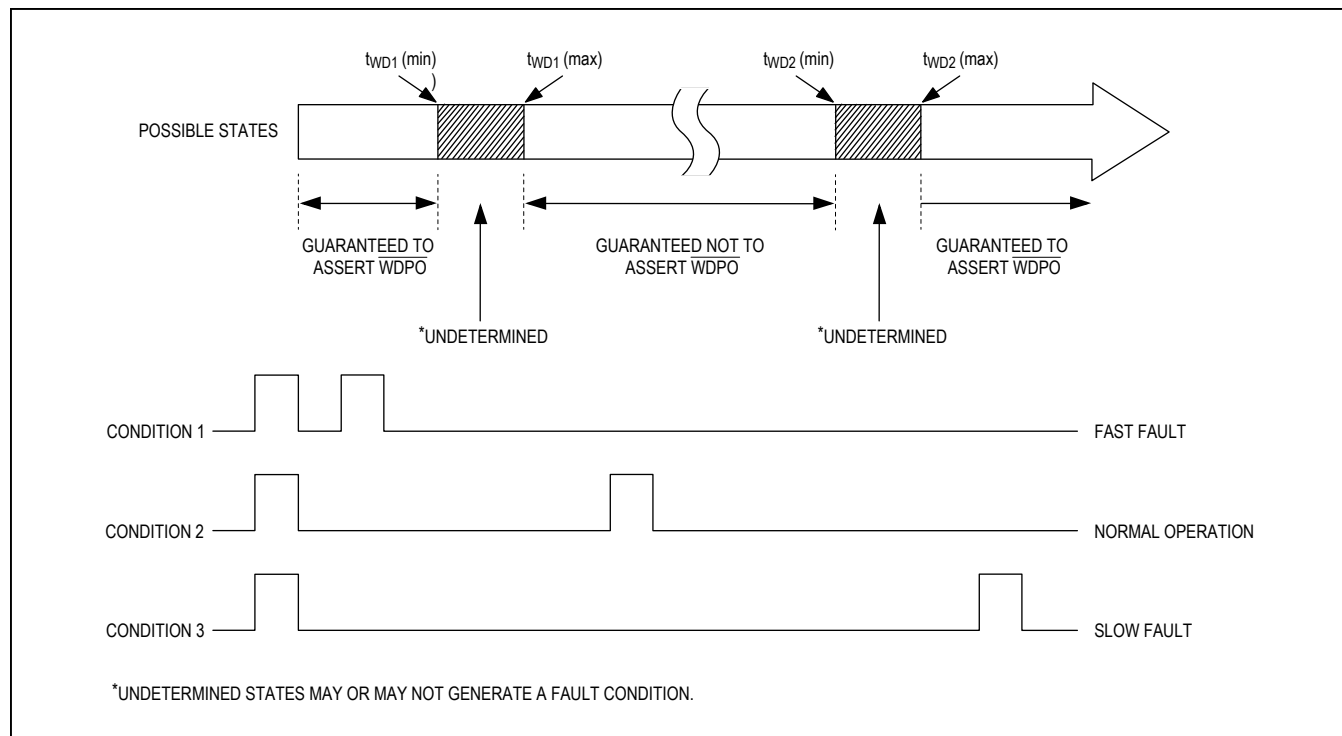
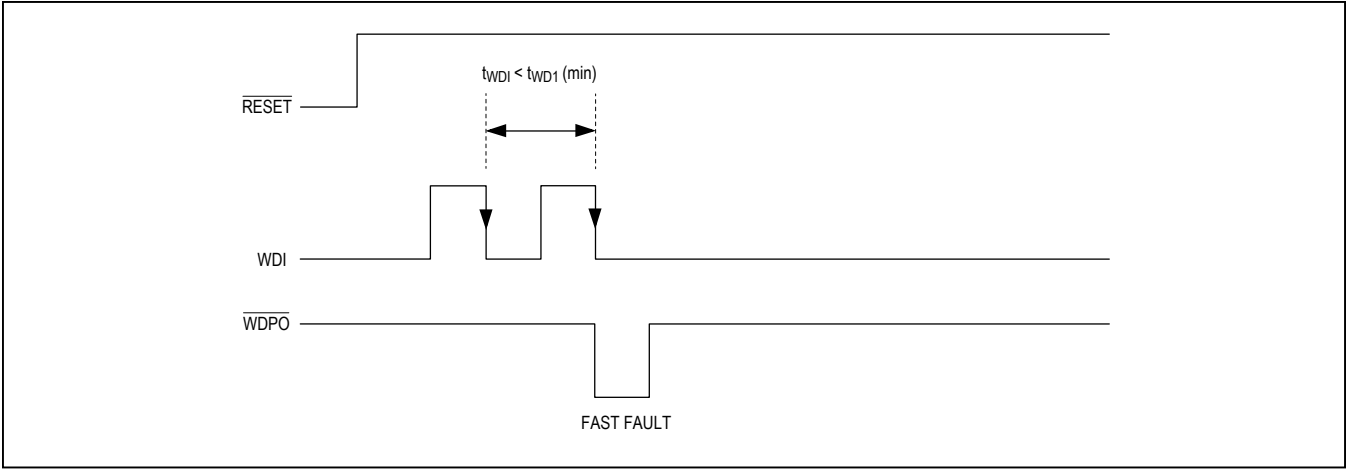
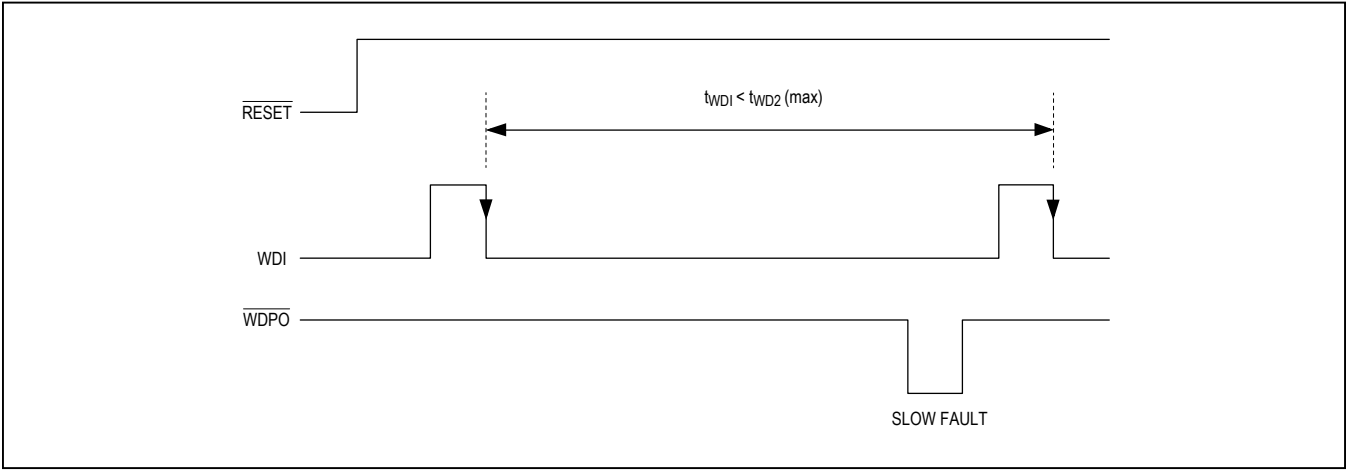
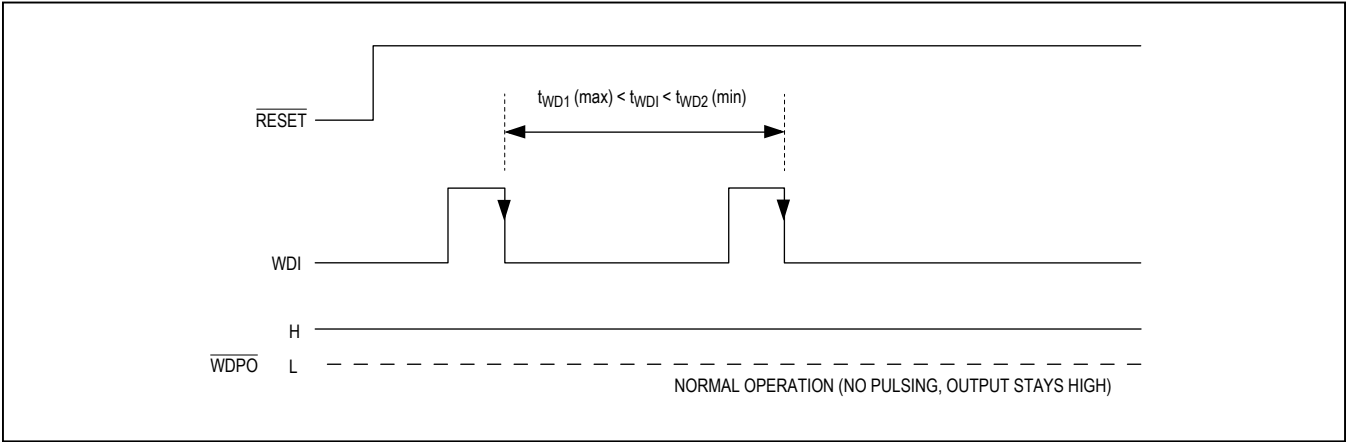

Figure 1. Detailed Watchdog Input Timing Relationship
Figure 2. Fast Fault Timing
Figure 3. Slow Fault Timing
Figure 4. Normal Operation, $\overline{WDPO}$ Not Asserted
*See Figure 1 for operation.
The MAX6323/MAX6324 μP supervisory circuits maintain system integrity by alerting the μP to fault conditions. In addition to a standard V_{CC} monitor (for power-on reset, brownout detect, and power-down reset), the devices include a sophisticated watchdog timer that detects when the processor is running outside an expected window of operation for a specific application. The watchdog signals a fault when the input pulses arrive too early (faster than the selected t_{WD1} timeout period) or too late (slower than the selected t_{WD2} timeout period) (Figure 1). Incorrect timing can lead to poor or dangerous system performance in tightly controlled operating environments. Incorrect timing could be the result of improper μP clocking or code execution errors. If a timing error occurs, the MAX6323/MAX6324 issue a watchdog pulse output, independent from the reset output, indicating that system maintenance may be required.
than t_{WD1}) (Figure 2) or falling edges that are too far apart (slower than t_{WD2}) (Figure 3), $\overline{WDPO}$ is pulsed low. Normal watchdog operation is displayed in Figure 4 ($\overline{WDPO}$ is not asserted). The internal watchdog timer is cleared when a WDI falling edge is detected within the valid watchdog window or when the device's $\overline{RESET}$ or $\overline{WDPO}$ outputs are deasserted. All WDI input pulses are ignored while either $\overline{RESET}$ or $\overline{WDPO}$ is asserted. Figure 1 identifies the input timing regions where $\overline{WDPO}$ fault outputs will be observed with respect to t_{WD1} and t_{WD2} . After $\overline{RESET}$ or $\overline{WDPO}$ deasserts, the first WDI falling edge is ignored for the fast fault condition (Figure 2).